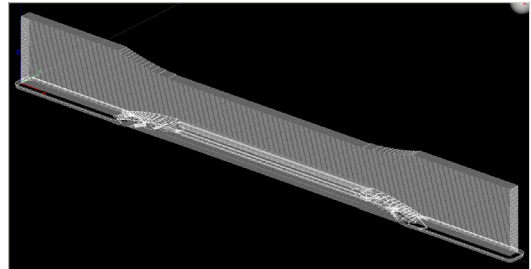

Figure 6. Selected Part.
2. Drag the cursor across the screen to select the entire part (all layer lines will show up as white if selected) (Figure 6).